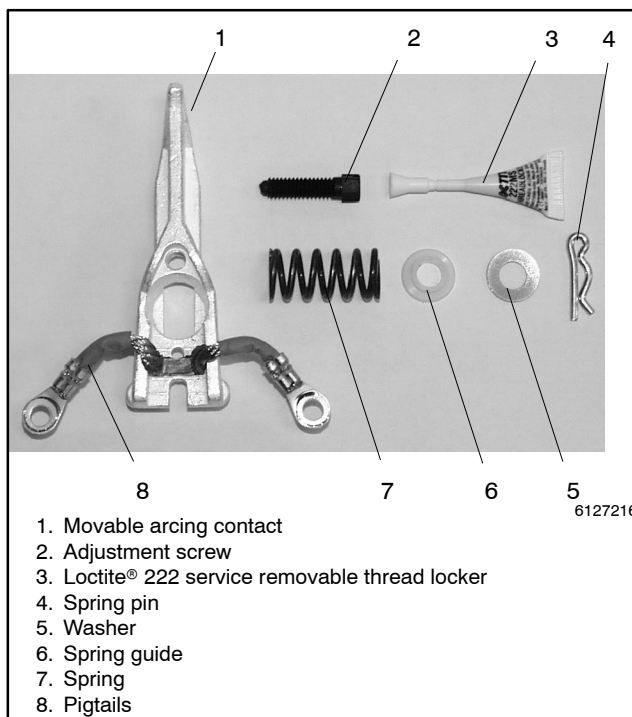

Figure 9-11 Movable Arcing Contact and Hardware
4. Install new movable arcing contact. Put two drops of Loctite® 222 (this service-removable threadlocker is provided in the kit) to the lead threads of the adjustment screw. Then install the adjustment screw through the new movable arcing contact until it protrudes 3.2 mm (1/8 in.). Now install the movable arcing contact onto the movable main contact so that the spring stud goes through the arcing contact and its pivot points fit into the two depressions (in the main contact). Finally, install the arcing contact spring, spring guide, flat washer, and spring pin. See Figure 9-11.